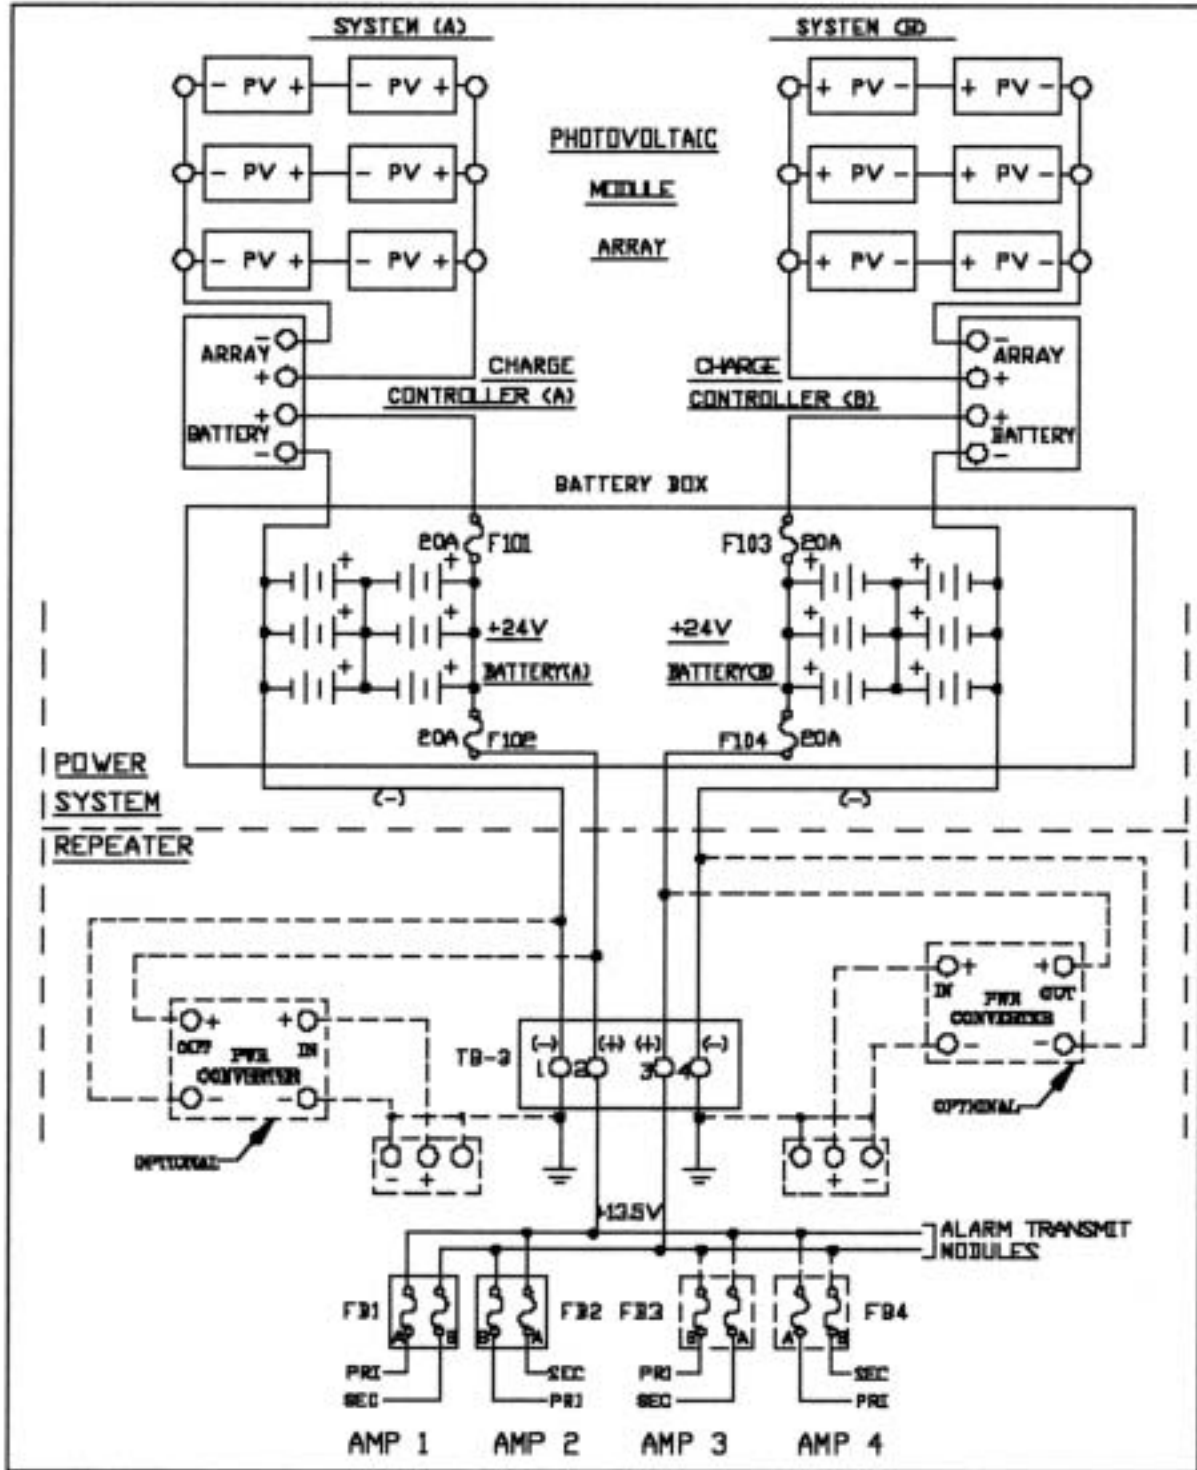

figure 1.1 Mechanical Layout (Duplex Figure 7. Power Connection Block Diagram)
- If a single AC/DC converter is used, jumpers must be installed between terminals 2 and 3 on the lower side of TB-3 (see Figures 1.1 and 1.2). Note that the equipment uses a negative ground.